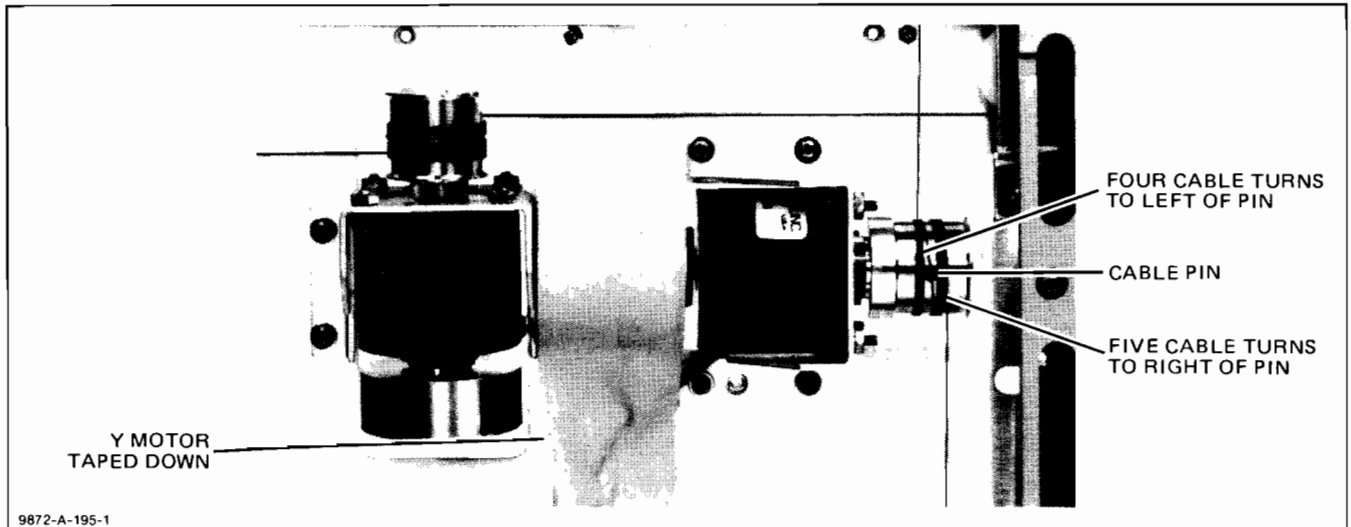

Figure 6-19. Y Motor and Pulley Windings
- a. Turn the Y-motor pulley so that the pin hole is directly up. See Figure 6-19.